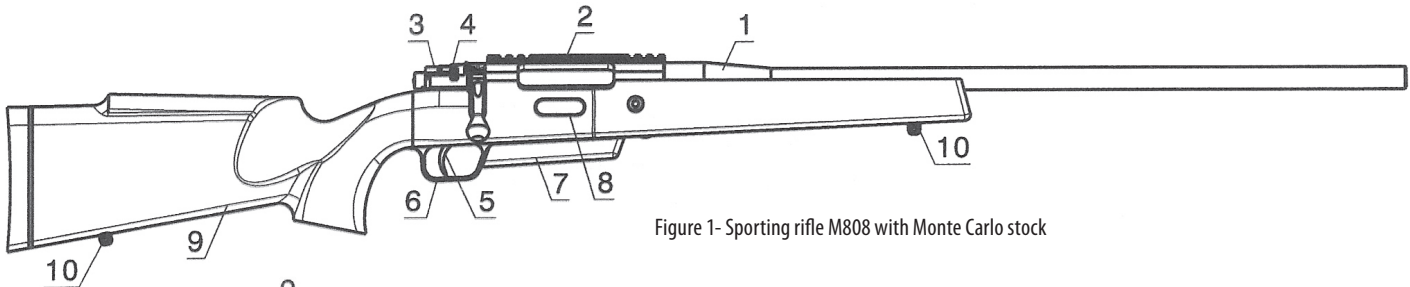
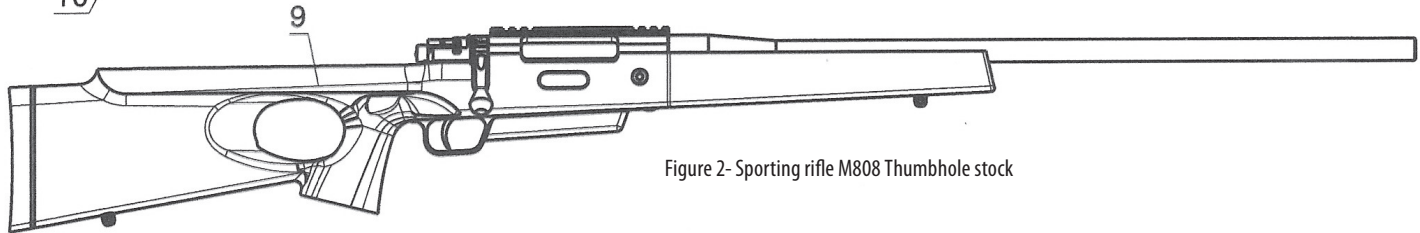

Figure 1- Sporting rifle M808 with Monte Carlo stock
Figure 2- Sporting rifle M808 Thumbhole stock
Basic parts of sporting rifle M808 are shown in figure 1.
- (1) barrel;
- (2) receiver, with Picatinny rail for optical sight, according to STD-MIL-1913;
- (3) bolt;
- (4) safety;
- (5) trigger;
- (6) trigger guard;
- (7) magazine;
- (8) magazine catch button;
- (9) Monte Carlo stock
- (10) swivels.
Unlike sporting rifle in figure 1, the sporting rifle M808 in figure 2 has Thumbhole stock, item (9).